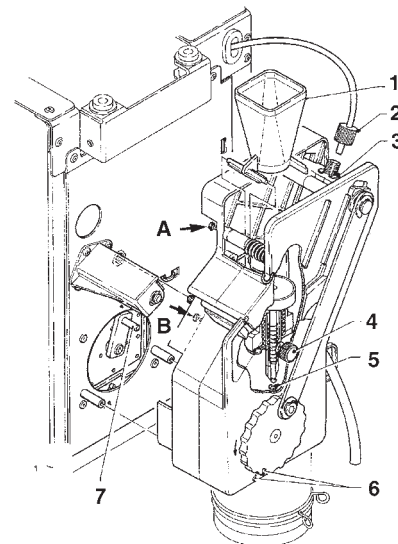

Fig. 16
- remove the boiler teflon hose connection from the upper piston, paying attention not to lose the seal (see Fig. 16);
- Loosen screws A and B enough to release the coffee funnel (see fig. 16);